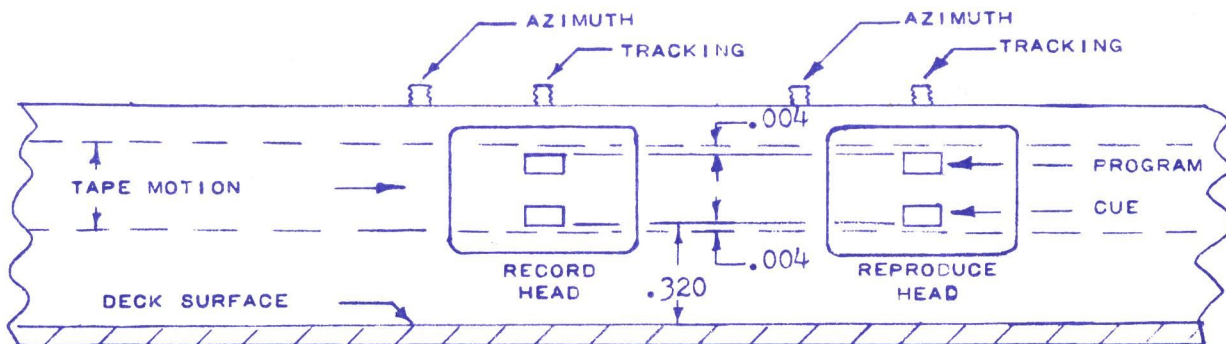

FIG. 1
- (1) Refer to Fig. 1 for location of the tracking and azimuth adjusting screws.
- (2) A coarse adjustment of head tracking should be made by measurement. With the .050" hex key, rotate the tracking screw for a spacing of 5/16" between the deck surface and the lower edge of the head pole pieces (see Fig. 1).
- (3) The fine adjustment makes use of the tracking cartridge described in item (3) under "Materials Required". Place the cartridge on the deck and set the tape in motion. Hold cartridge firmly against deck surface with finger pressure. Observe the tape travel path across the head. Adjust the tracking screw so that the top and bottom pole pieces are equidistant from the top and bottom edges of the tape. The ideal tracking adjustment is shown in Fig. 1.
- (1) After the reproduce head has been adjusted, proceed with alignment of the record head. See Fig. 1 for location of tracking and azimuth adjusting screws.
- (2) Follow tracking adjustment instructions (2) and (3) under REPRODUCE HEAD ADJUSTMENT PROCEDURE
- (3) Remove tracking cartridge and place unrecorded cartridge on deck, turn RECORD/PLAY switch to RECORD, feed a 15 kc signal into the line input of the record amplifier, adjust recording gain to a meter reading of -10 VU, start the tape in motion and adjust the azimuth adjustment screw for maximum output from the playback amplifier.
- (4) Repeat procedure for final adjustment.
- (5) See note 1B, page B-8 for record bias adjustment.